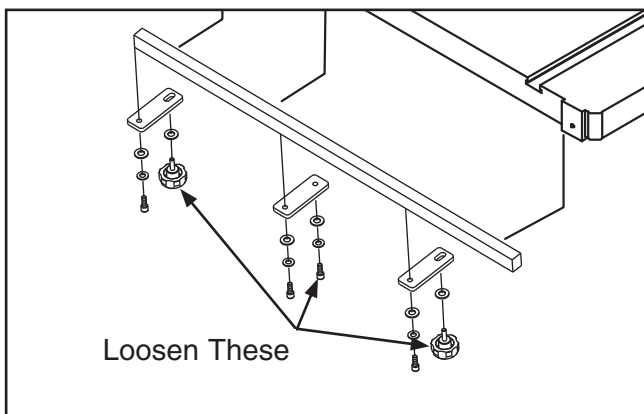

Figure 59. Loosen these knobs and cap screw.
4. Loosen the end knobs and the center cap screw that secure the front rail to the table (see **Figure 59**).